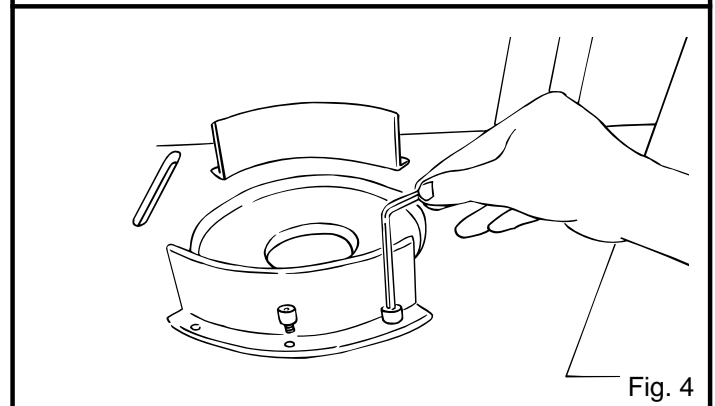

Fig. 4
- Locate the two gray lower guards. Position them around the throat of the table so that the three holes of each guard line up with the three threaded holes in the table. Use the hex wrench provided to secure each lower guard with three 1/4-20 x 1/2 in. socket head screws. See Figure 4.